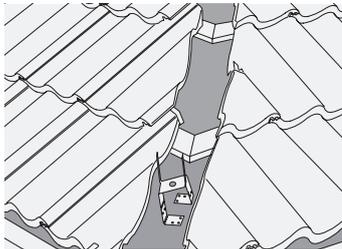

Fig. 3 - Lay tile to hip with raking cut
- 3 Tile roof leaving a gap of 80mm between raking cut tiles laid adjacent to hip rafter (Fig. 3). Ensure all raking cut tiles and slates are fully supported on the battens and if not, provide suitable packers to prevent tiles from rocking.